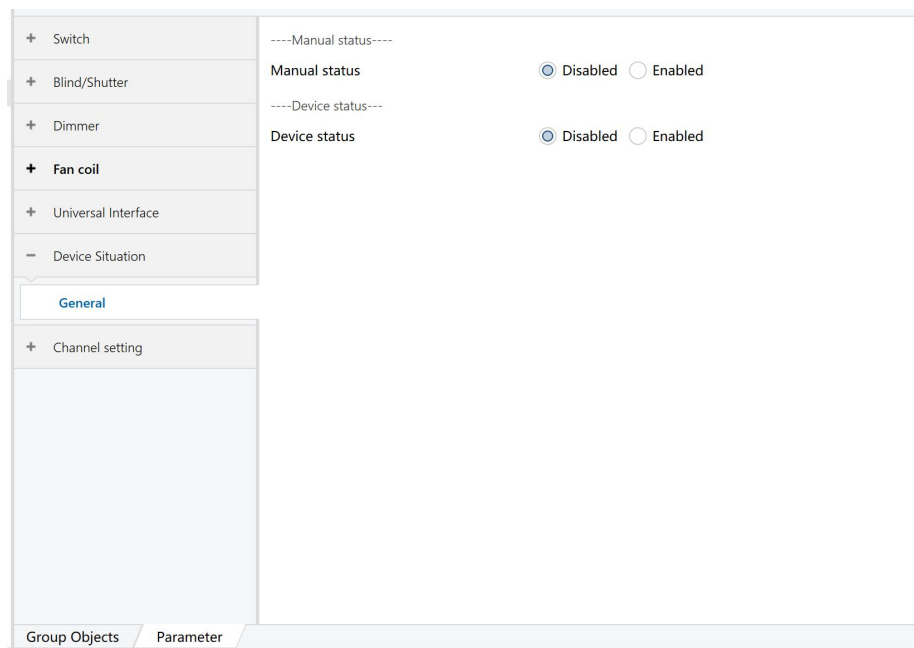

Figure 6.6.1
1) Click "Device Situation" as shown in Figure 6.6.1, when the parameters Manual status and Device status are set to Enabled, the corresponding function will be enabled.